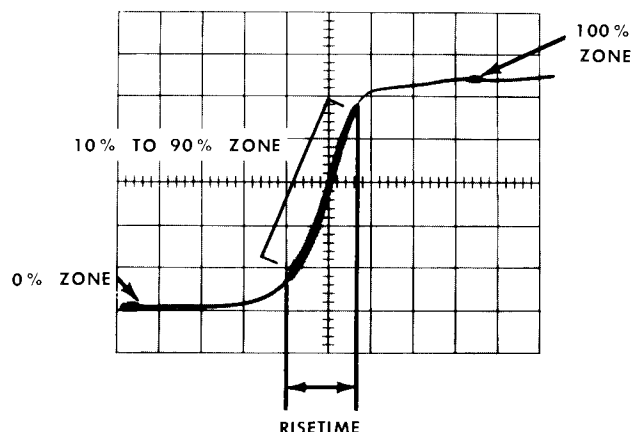

Fig. 2-4. Risetime measurement.
4. Read the risetime directly from the readout. This is the risetime of the pulse (see Fig. 2-4).